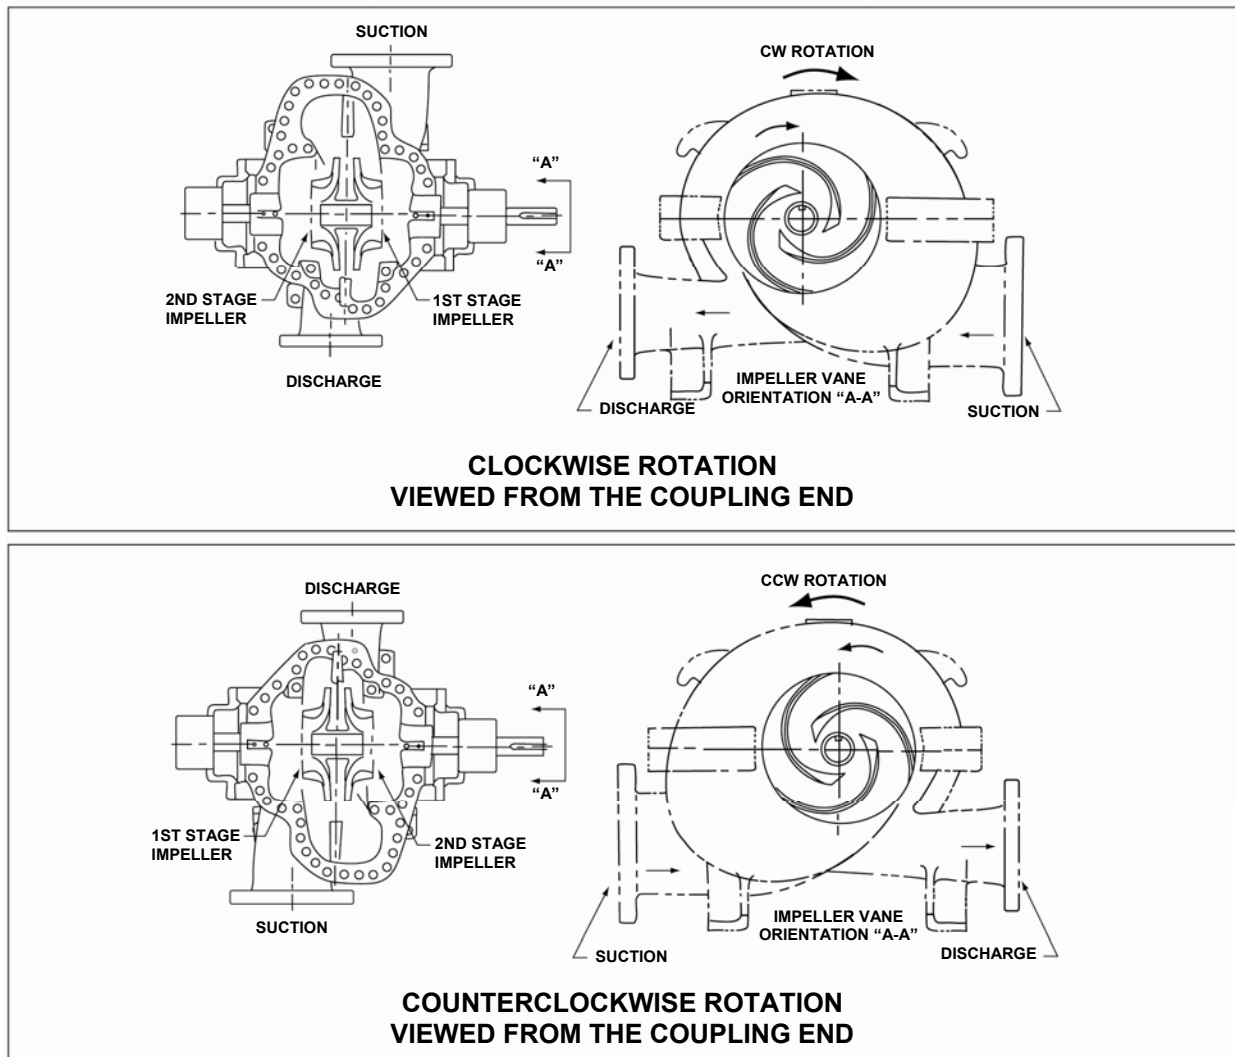

FIGURE 10 – CORRECT RELATIONSHIP OF THE IMPELLERS AND CASING
6. Wrong direction of rotation.	Check motor rotation with directional arrow on pump casing. If rotation is correct with arrow, check the relationship of the impeller with casing. (This will require removing casing upper half.) See Figure 10 on page 25.
1. Remove the impeller from the shaft, and relocate the two impellers per Figure 10 for the desired rotation. (Follow the disassembly procedures given in this manual.)